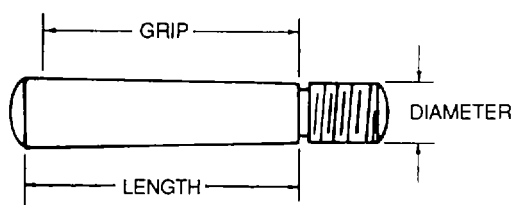

Figure 2-48. Threaded Taper Pin
(2) Threaded taper pins. Threaded taper pins, AN386, as shown in figure 2-48, are used with taper pin washers, AN975, and shear nuts, AN320. They are safetied with cotter pins, MS24665, or safetied with self-locking nuts, MS21083 (These Brown and Sharpe pins are installed in a standard "B & S" tapered socket.) The pin is set with a light tap from a rawhide or nylon mallet. The small end of the taper is installed flush or not more than .060 inch above the surface of the component. It is permissible to install a large size pin in some cases. Refer to the specific aircraft maintenance manual for maximum allowable size and required torque on the nut.